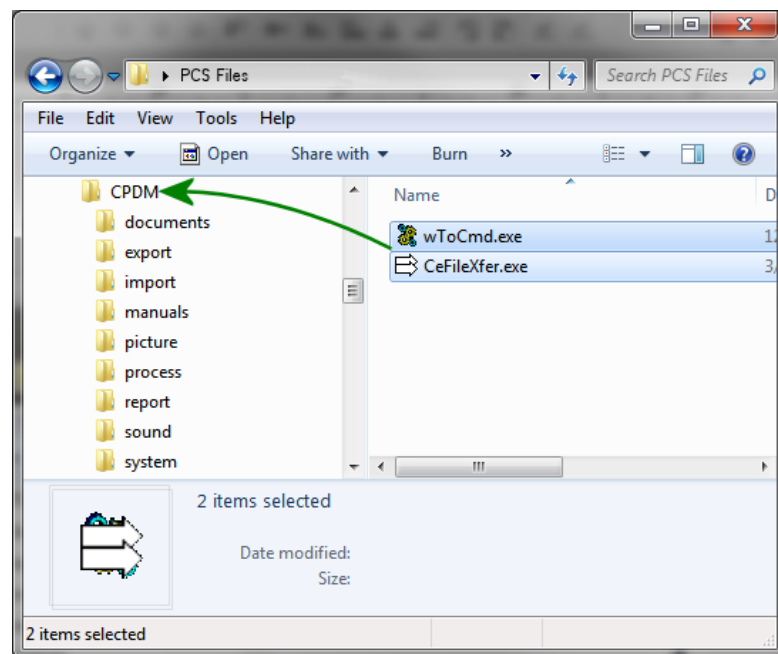

Figure 1-11. PCS CPDM Installation Folder
- 3 Drag the files *wToCmd.exe* and *CeFileXfer.exe* from the installation CD to the PCS CPDM installation folder on your computer (Figure 1-11).